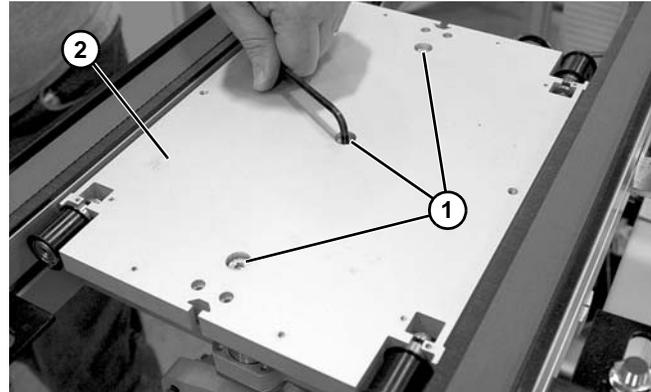

Figure 110
4. While supporting drive assembly in place, remove socket head screws (Figure 110, item 1) and top plate (Figure 110, item 2).